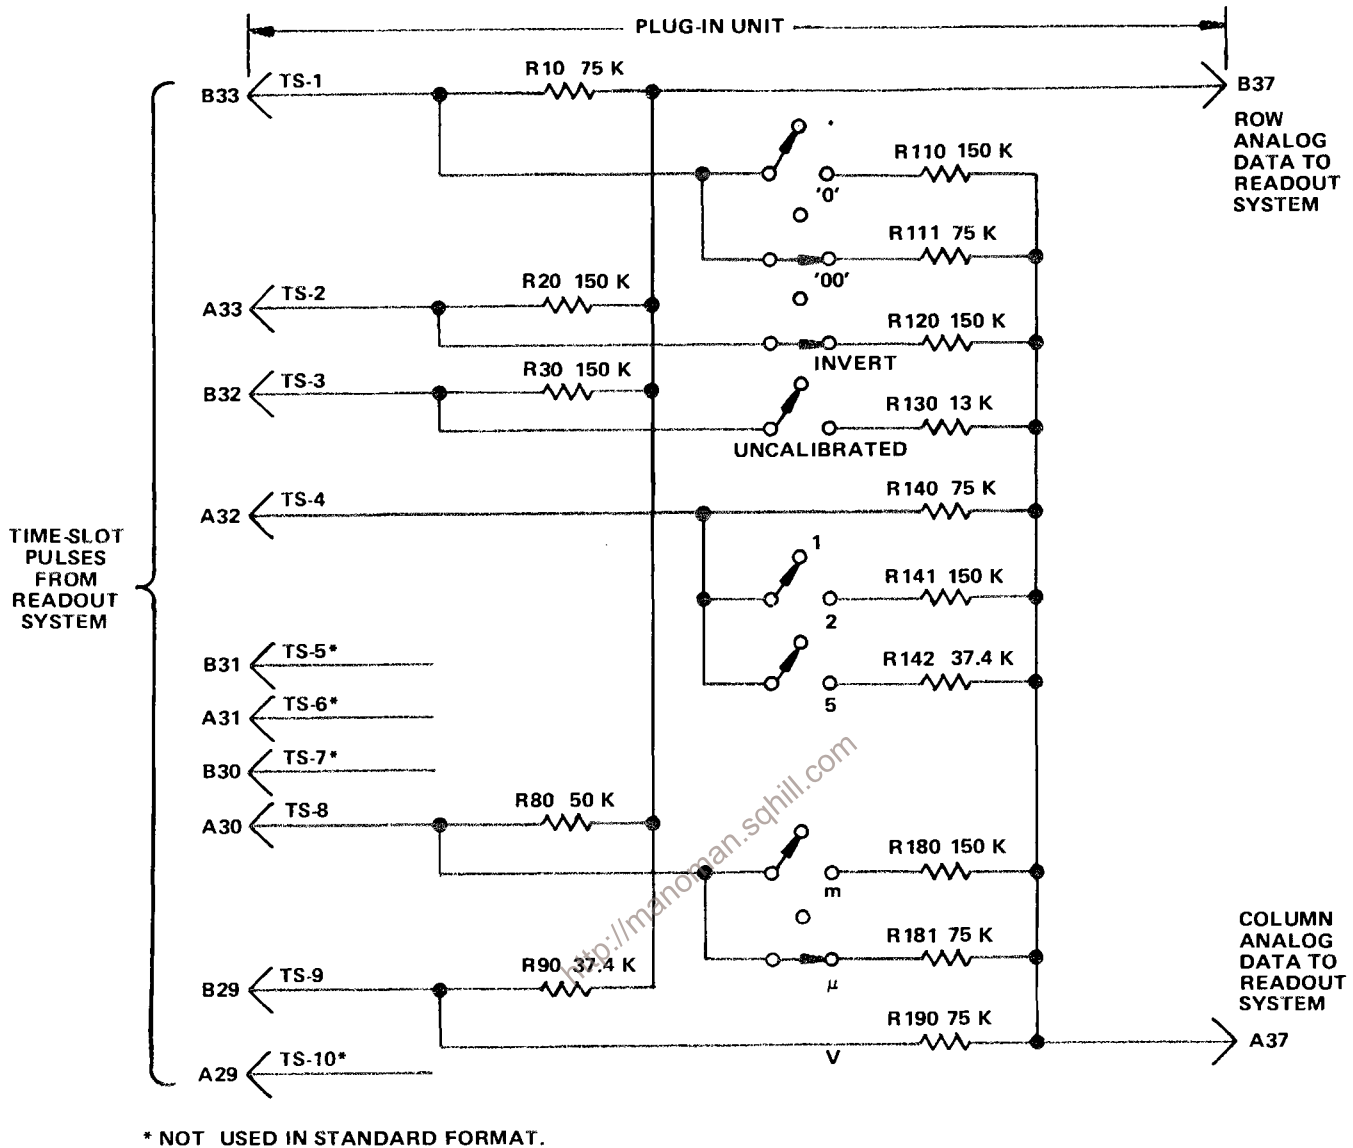

Figure 3-32. Typical encoding scheme for voltage-sensing amplifier plug-in unit. Coding shown for deflection factor of 100 microvolts.
Data is conveyed from the plug-in units to the Readout System in the form of an analog (current level) code. The characters that can be selected by the encoded data are shown on the Character Selection Matrix (see Figure 3-25). Each character requires two currents to define it; these currents are identified as the column current and the row current, corresponding to the column and row of the matrix. The column and row data is encoded by programming the plug-in units. Figure 3-32 shows a typical encoding scheme using resistors for a voltage-sensing amplifier plug-in unit. Notice that the 10 time-slot (TS) pulses produced by the Time-Slot Counter stage are connected to the plug-in unit. However, time-slots 5, 6, 7, and 10 are not used by the plug-in unit to encode data when using the Standard Readout Format. (See Table 3-2 for Standard Readout Format.) The amplitude of the time-slot pulses is exactly  $-15$  volts as determined by the Timer stage. Therefore, the resultant output current from the plug-in units can be accurately controlled by the programming resistors in the plug-in units.
For example, in Figure 3-32 resistors R10 through R90 control the row analog data, which is connected back to the Readout System. Figure 3-33A shows an idealized output current waveform of row analog data, which results from the time-slot pulses. Each of the row levels of current shown in these waveforms corresponds to 100 microamperes of current. The row numbers on the left-hand side of the waveform correspond to the rows in the Character Selection Matrix (see Figure 3-25). The row analog data is connected back to the Readout System via terminal B37 of the plug-in interface.
The column analog data is defined by resistors R110 through R190. The program resistors are connected to the time-slot lines by switch closures to encode the desired data. The data as encoded by the circuit shown in Figure 3-32 indicates a 100-microvolt sensitivity with the crt display inverted and calibrated deflection factors. This results in the idealized output current waveforms shown in Figure 3-33B at the column analog data output, terminal A37 of the plug-in interface.
The column analog data encoded by most plug-in units can be modified by attenuator probes connected to the input connectors of amplifier plug-in units. A special coding ring around the input connector of the plug-in unit senses the attenuation ratio of the probe (with readout-coded probes only). The probe contains a circuit which provides additional column current. For example, if a 10X attenuator probe is connected to a plug-in unit encoded for 100 microvolts as shown in Figure 3-32, an additional unit of current is added to the column analog data during time-slot 1. Since two units of current were encoded by R111 (see Figure 3-32), this additional current results in a total of three units of column analog current during this time-slot. Referring to the Character Selection Matrix, three units of column current, along with the two units of row current encoded by R10, indicates that the prefix should be shifted one column to the left. Since this instruction occurs in the same time-slot that previously indicated that two zeros should be added to the display and only one instruction can be encoded during a time-slot, the zeros do not appear in the display. The crt readout will now be changed to 1 mV (readout program produced by plug-in same as for previous example).
Finally, memory C is interrogated during time-slot 8 to obtain information on whether the prefix should be changed, or left at the value that was encoded. If data has been encoded that calls for a shift in prefix, a negative-going output level is produced at pin 7. This negative level subtracts one unit of column current from the data at the input to the Column Decoder. Notice on the Character Selection Matrix of Fig. 3-25 that when row 4 is programmed, a reduction of one column results in a one-column shift of the prefix. For example, with the 100  $\mu$ V program shown in Fig. 3-32, if the data received from the plug-in called for a shift in prefix, the crt readout would be changed to 1 mV (zeros deleted by program, see Encoding the Data).